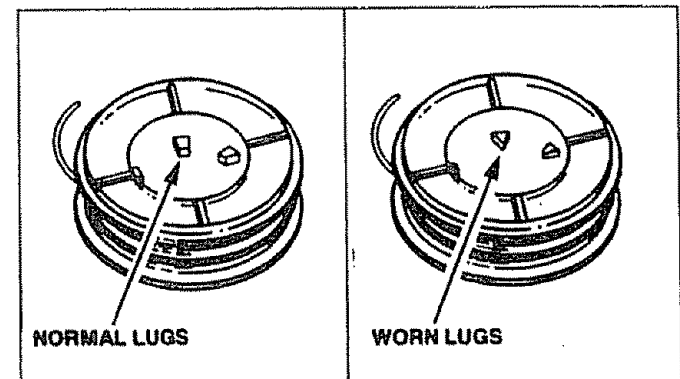

Figure 26
- Clean dirt and debris from all parts. Replace the spool when the square corners on the lugs are rounded off, reduced in size, or broken off. Figure 26